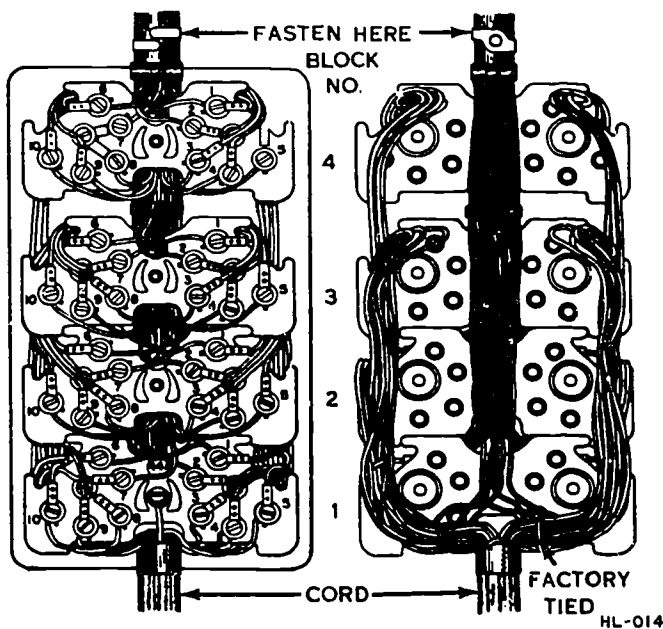

Figure 3-13. Four connecting blocks terminated.
sure that you turn the self-threading mounting screws until they rest completely down in the countersunk holes. Otherwise, you could cause a short or ground to the to-be-installed cord conductors. Now, you can complete the terminations. You also use the D color code when terminating the key cable pairs at the 44A connecting blocks. An exception to be noted with these terminations is that the conductor is placed between the two washers rather than having one conductor under each washer. Similarly, you want no excess wire. Furthermore, you tighten the screws only when all attachments are completed. Hence, the screws on the No. 1 connecting block are tightened when the telephone cord conductors are also installed under the screws. Figure 3-13 shows a front and rear view of four connecting blocks which have terminated a key cable and a telephone cord. The view to your left shows the screw numbers and wires terminated at each. The right-hand view shows how the cables and conductors are fitted beneath the connecting blocks.
2. What two tasks are required to prepare a key cable conductor for terminating at the connecting blocks for text figure 3-13?
3. Which connecting blocks in text figure 3-13 are connected with the telephone?
4. Identify a terminal (or terminals) in the connecting blocks of text figure 3-13 which don't have a cord conductor attached